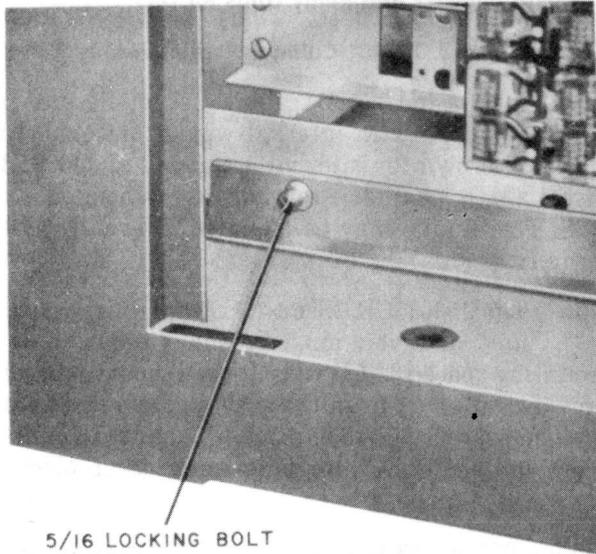

Fig. 4—Locking Bolt in Position for Shipping (MD Cabinets)
- 5/16-inch wrench for removing nut from locking bolt on bottom of each slide in (MD) cabinet assemblies, Lists 10 and 11 (Fig. 4).
4.04 To prevent damage to slides in shipping the (MD) Lists 10 and 11 cabinet assemblies, a 5/16-inch bolt is placed through the bottom of each slide and its supporting framework (Fig. 4). These bolts must be removed before slides can be opened. Retain bolts for future shipping use.